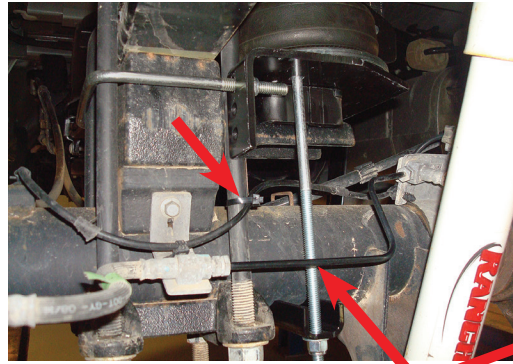
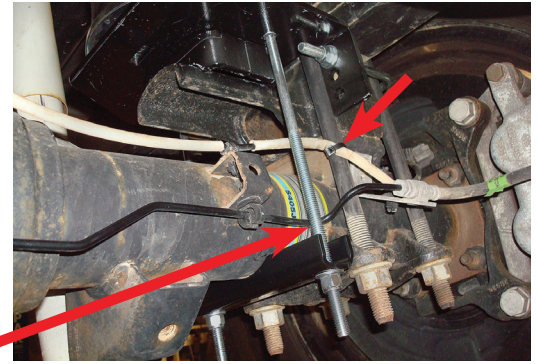

Fig. 21
Fig. 22
*On the driver's (left) side, the long carriage bolt in the lower bracket main plate should be located between the hard brake line and axle (Fig. 21). On the passenger's (right) side, the carriage bolt should be located on the backside of the brake line (Fig. 22).*
6. Figures 21 & 22 show the lower bracket installed.
IT WILL BE NECESSARY TO PUSH THE HARD BRAKE LINE AWAY FROM THE LOWER BRACKET CARRIAGE BOLT IF THE LINE IS RESTING ON IT (FIGS. 21 & 22).